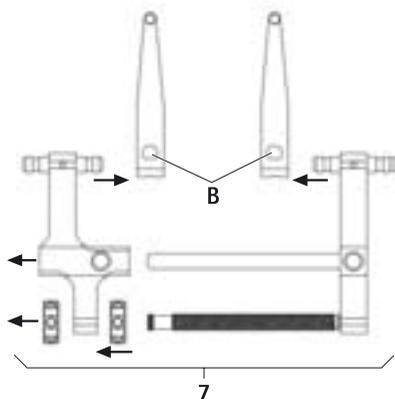

Fig. 2
- To dismount distractor **7** with the distraction blades, see Fig. 2: Actuate slide **B** and remove distraction blade FW239R.